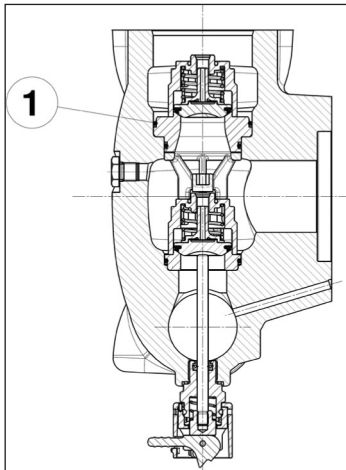

Fig. 101
Pay special attention to O-ring insertion indicated in pos. ①, Fig. 101.